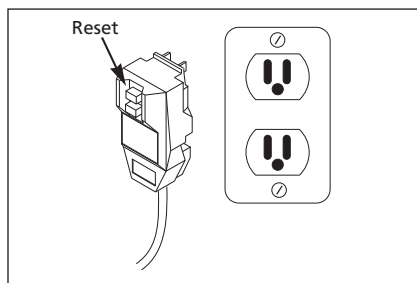

Figure 4 - Grounded plug/reset button
1. Plug the power cord into a grounded 120V outlet and press the reset button as shown in Figure 4.